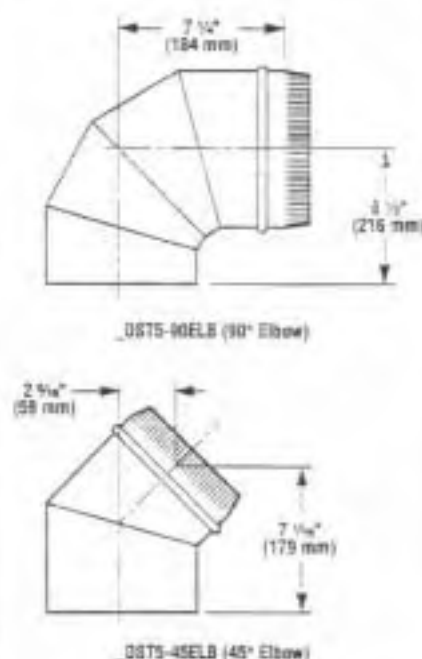

Figure 28
Analyze the vent routing and determine the quantities of vent sections and number of elbows required. Refer to Vertical Vent Table on page 8 to select the type of vertical installation desired. Vent sections are available in net lengths of 10 3/4" (273 mm), 16 3/4" (425 mm) and 34 3/4" (883 mm). Refer to the Vent Section Length Chart on page 8 to determine available length combinations. Elbows are available as 90° and 45° configurations. Refer to Figure 28 for the _DST5 elbow dimensional specifications.
A. Analyze the vent routing and determine the types and quantities of sections required. Venting is available in 10 $\frac{3}{4}$ " (260 mm), 16 $\frac{3}{4}$ " (413 mm) and 34 $\frac{3}{4}$ " (867 mm) net section lengths. Make allowances for elbows as indicated in Figure 28. Maintain a minimum 1" (25 mm) clearance to combustibles on the vertical sections. Clearances for the horizontal runs are: 3" (76 mm) on top, 1" (25 mm) on sides, and 1" (25 mm) at the bottom.